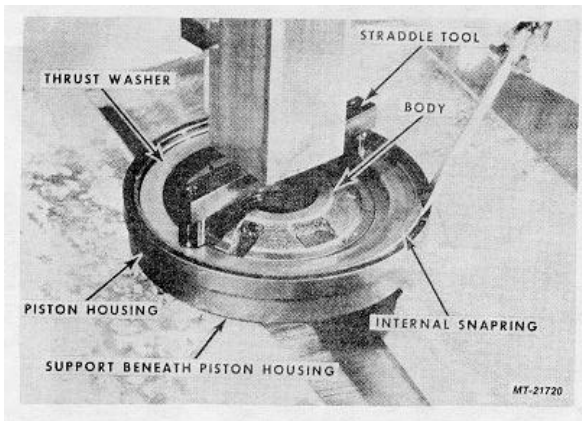

Fig. 28
25. Center Straddle Tool, SE-2782-6 on Thrust Washer. Press Thrust Washer down 1/32" to allow removal of Internal Snapping, Fig. 28. DO NOT PRESS DOWN MORE THAN 1/32". Movement will stop at that point and further force will damage parts.